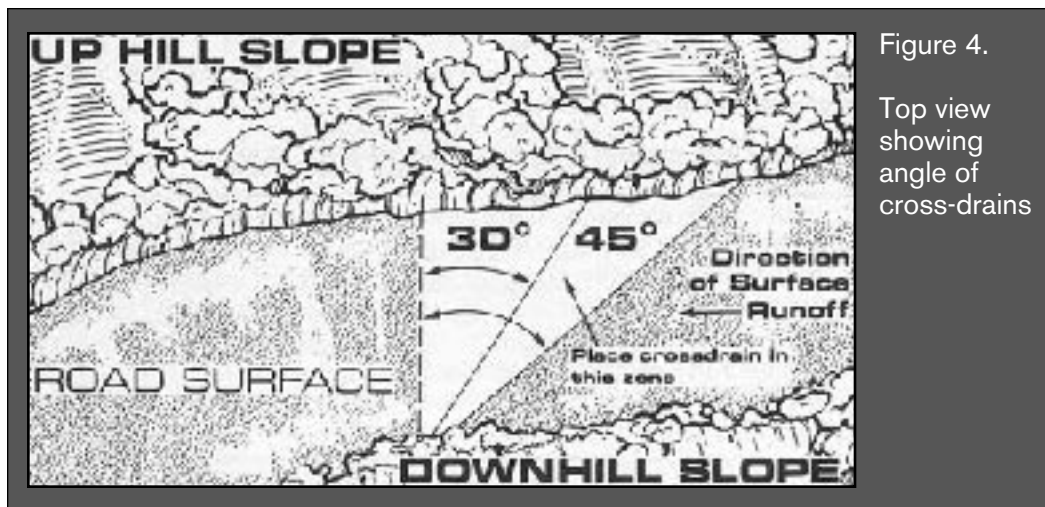

Figure 4.
- Waterbars should be installed at a 30 to 45 degree angle (see Figure 4).
- Angle the drain no less than 30 degrees from a line drawn perpendicular to the direction of travel (see Figure 4).
Channel drains should be placed at a 30 to 45 degree angle from an imaginary line drawn perpendicular to the direction of travel (see Figures 4 & 6).